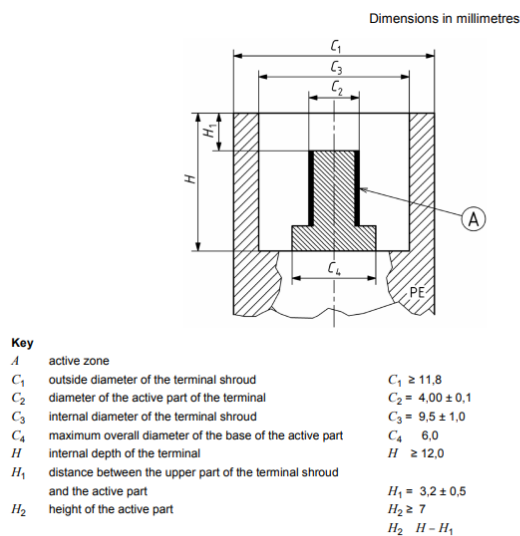

Figure B.1 — Typical type A connection
B.1 Figures B.1 and B.2 illustrate examples of terminal connections suitable for use with voltages less than or equal to 48 volts (types A and B).